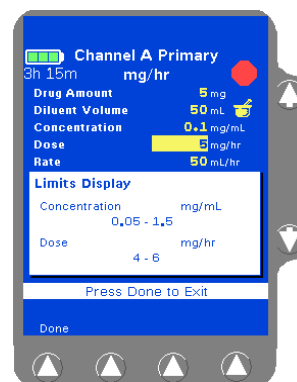

Figure 11-11 View Limits Pop-up
5. (Optional) To view the limits for the label, press the **View Limits** soft key. The Limits Display pop-up displays the preconfigured range limits for rate, dose, or concentration, whichever is appropriate for that label (Figure 11-11). Press the **Done** soft key to close the pop-up.